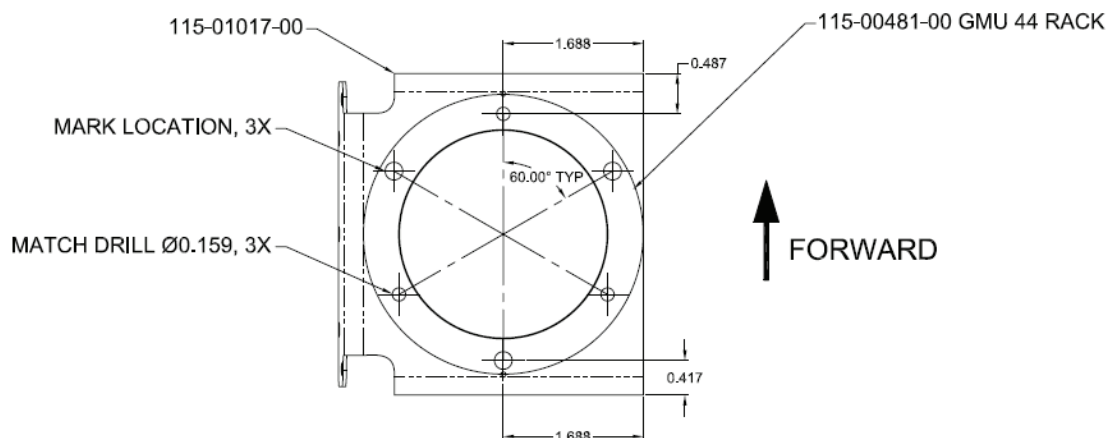

Figure C-8 GMU 44 Installation Rack (ES / ES-P)
1. Clamp the GMU 44 Installation Rack (Figure C-8) in place and match drill the GMU 44 Bracket through three countersunk mounting holes.